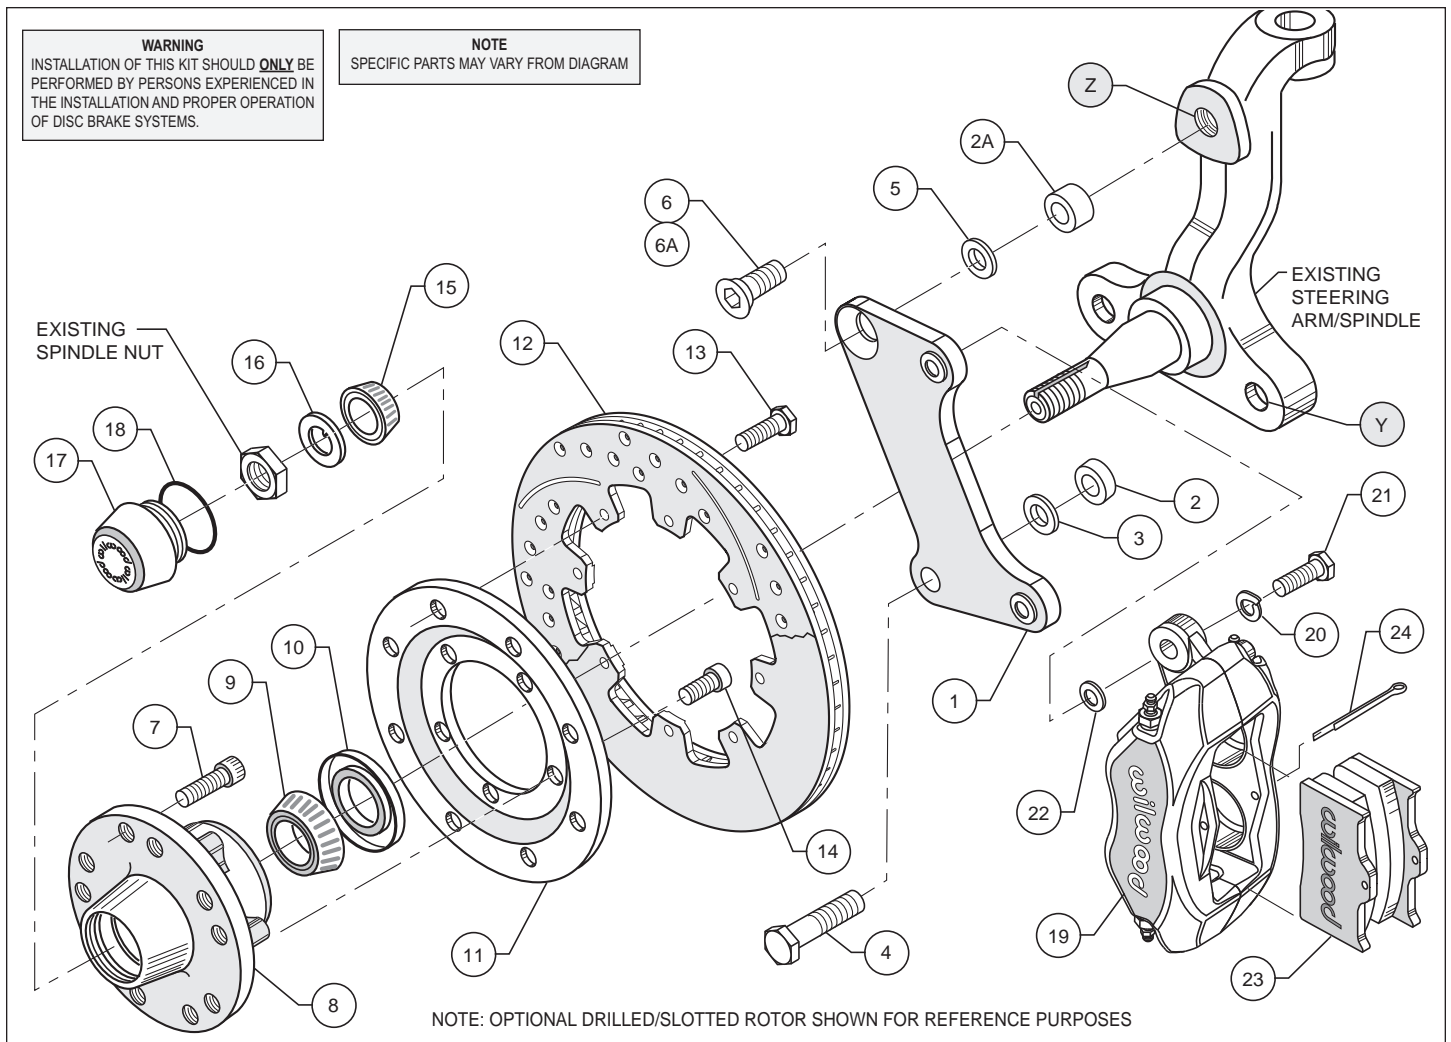
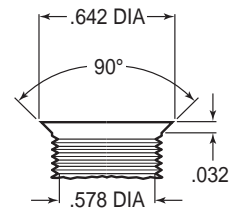

Figure 1. Typical Installation Configuration
Figure 3. Drill and Tap Detail
- NOTE:** 1964-66 spindles may require the following modifications (reference Figure 1 and Figure 3): Top anchor pin hole (Z) must be drilled and tapped to the dimensions as outlined in Figure 3. Bottom rear steering arm bolt hole (Y) in the spindle and steering arm must be enlarged to .50" by drilling. A 1/2-20 backing nut (not supplied in kit) will need to be acquired to torque bracket / steering arm bolt (supplied in kit).